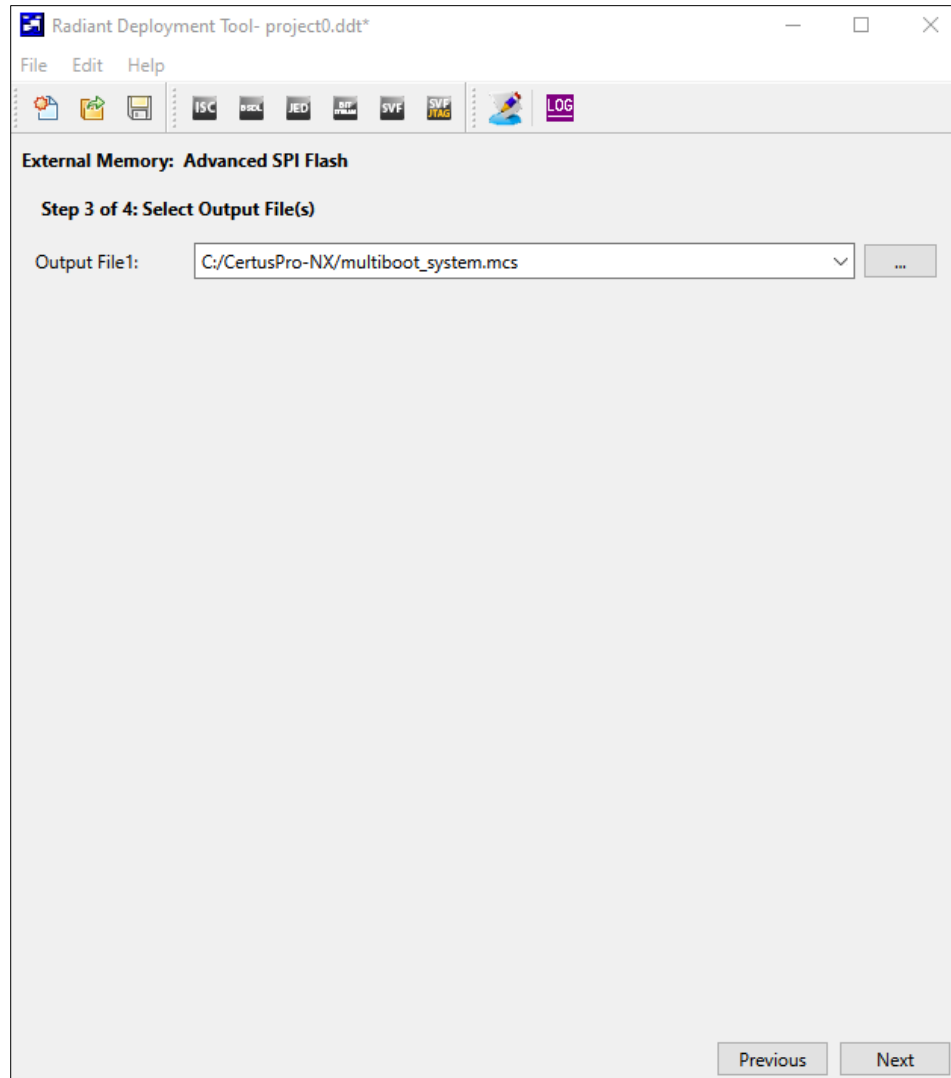

Figure 7.63. External Memory Step 3 of 4: Select Output File(s)
8. In **Step 3 of 4: Select the Output File(s)** as shown in Figure 7.63. Choose the location on your machine to generate a .mcs file.